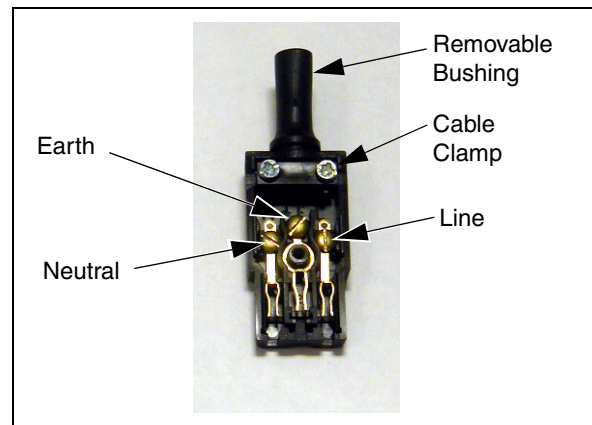

Figure 3-10. AC Power Mating Connector
3. Loosen the two screws on the cable clamp. See Figure 3-10.